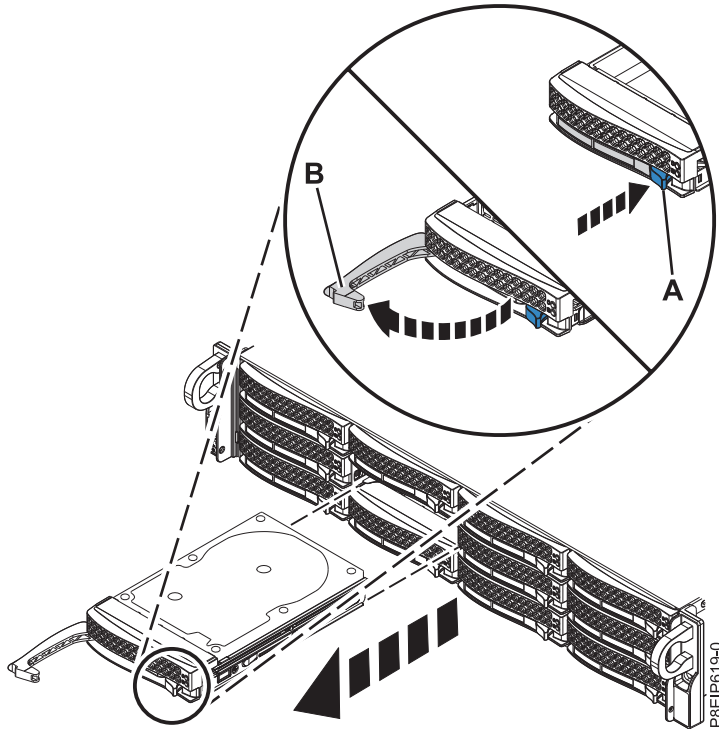

Figure 5. Removing a drive
2. Unlock the drive bay handle (**B**) by pushing in the handle release (**A**) as shown in Figure 5 on page 11. The handle (**B**) snaps out towards you. If the handle does not snap out all the way, the drive does not slide out of the system. If the drive does not match the serial number you wrote down in the previous step, reinstall the drive in the bay you removed it from, and check the other drive bays.